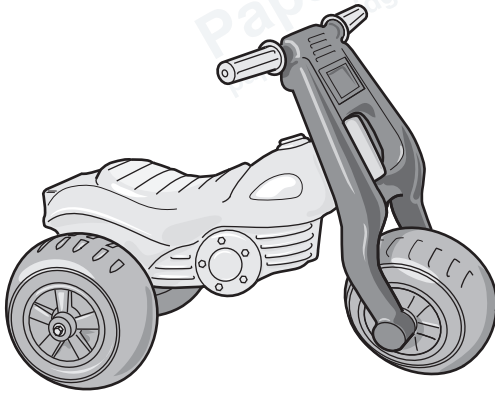

Figure 1.1
- 1 Figure 1.1 shows a child's trike made from plastic.